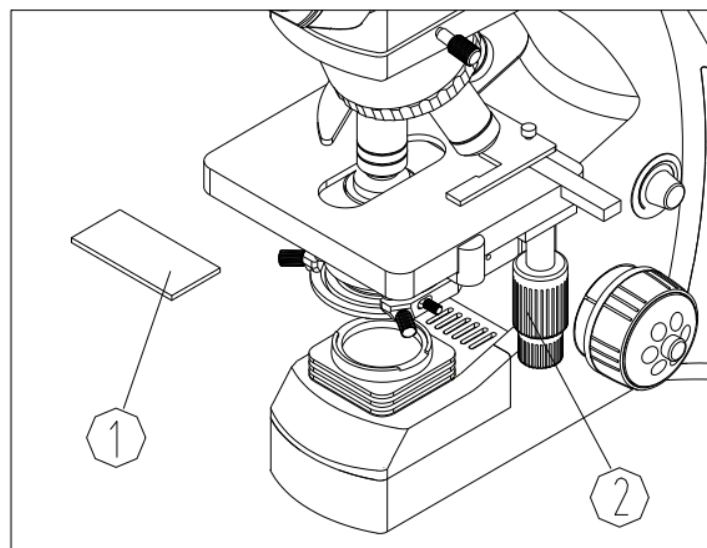

Figure 12
1. Generally, S-LED lamp is very durable, so it is not easy to damage. If it is unfortunately damaged, kindly purchase the S-LED (Fig.12) from your vendor.
2. Open the bottom plate ① by screwdriver, loosen screw ② to take the S-LED lamp ③ down and unplug the connector ⑥ from the breadboard. Mount new S-LED lamp, tighten screw ② and insert the connect ④ fully into the breadboard.